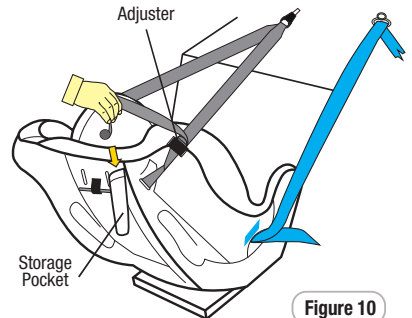

Figure 10
**Step 9:** Hook the attachment clip to the upper anchor fitting (refer Figure 10).
- Step 8:** Store any excess webbing, from the top tether strap in the storage pocket provided on the restraint (refer to Figure 10).